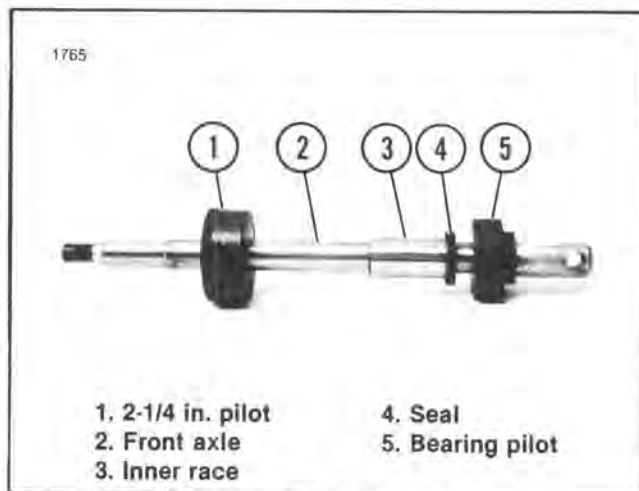

Figure 3-7. Wheel Seal Installation.
5. See Figure 3-7. Place the bearing pilot (5) on the axle with the axle head recessed inside the bearing pilot. Place the seal (4) over the axle with the numbered side facing the flat side of the bearing pilot. Place the inner race (3) on the axle and inside the seal. Insert the axle through the valve stem side of the wheel and through the 2-1/4 in. dia. pilot (1).